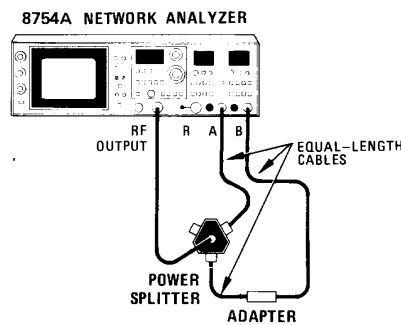

Figure 2-10. Phase Reference Accuracy Test Setup
41. Connect equipment as shown in Figure 2-10. Set analyzer controls as follows: